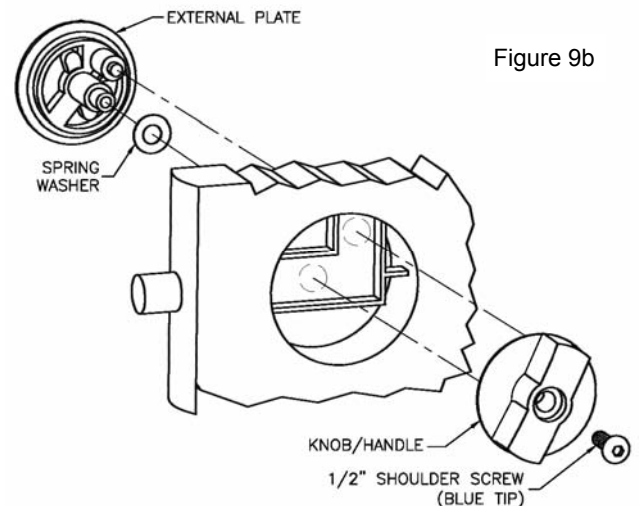

Figure 9b
- f. Mount external plate and knob. Remove clear plastic retainer holding spring washer in place on the post of the external plate. Insert the external plate into door as shown in Figure 9b, with the shorter post inserted into the upper pocket of the internal latch mechanism. Mount the knob/handle on the inside of the door and engage it with both the center post and the shorter, off-center post of the external plate. Insert  $\frac{1}{2}$ " shoulder screw with blue tip through the knob/handle and tighten until snug. Check for proper operation of knob and latch pin before final tightening.
- g. Locate strike/keeper on the latch-side pilaster so the latch pin engages with it when the door is closed. Drill ( $\frac{1}{4}$ " bit) mounting holes and secure strike/keeper to pilaster using thru bolt (1), with black rubber bumper facing out for outswing doors and in for inswing doors.